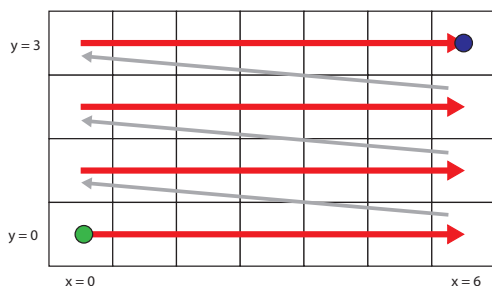

Figure 5.1: The ‘standard’ mode.
The most basic mode is the ‘standard’ mode. Fig. 5.1 shows how the standard mode measures the map $z(x, y)$. In this example, we have chosen for $x = \text{np.linspace}(0, 6, 7)$ and $y = \text{np.linspace}(0, 3, 4)$. We start at the green dot and measure $z(0, 0)$. Then, we follow the red line, which denotes a *sweep* being performed. Hence, we measure $z(1, 0)$, $z(2, 0)$, \dots , $z(6, 0)$. Then, we *move* x back to its first value (0) and *move* y to its second value (1). This is denoted by the grey arrow. Now, we sweep x for $y = 1$, move, sweep, etc., until we end up at the blue dot.